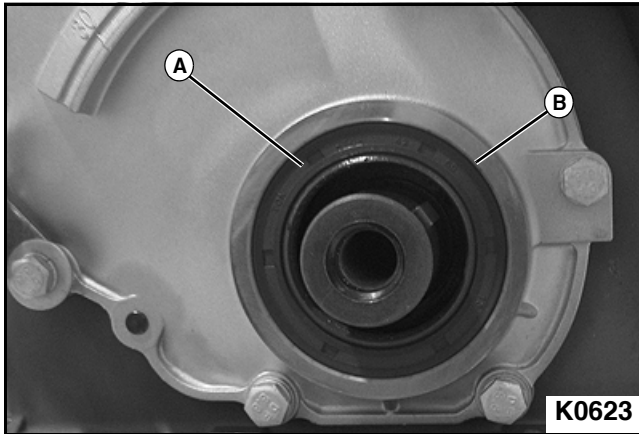

Figure 3-89
3. Remove front crankshaft seal (A) using a seal puller or equivalent tool. **See Figure 3-89.**
4. Clean timing chain cover (B) of any sealer or old crankshaft seal.